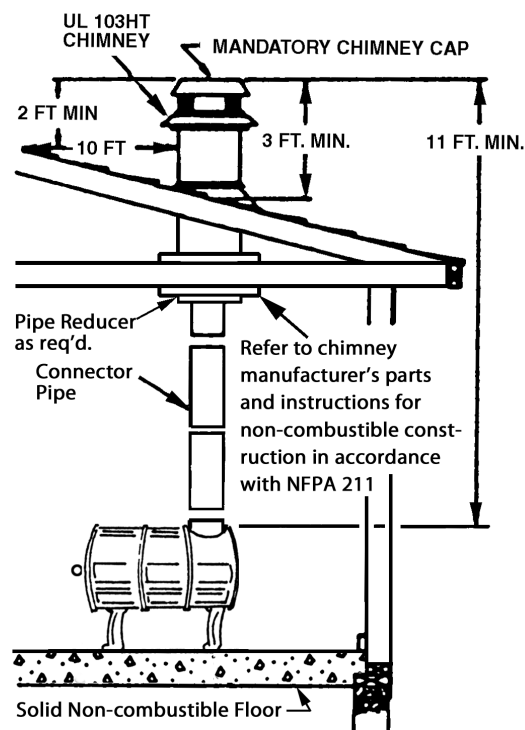

Fig. 8 - Chimney Construction Through Attic Space
DRAFT: Your stove itself does not create draft. Draft is provided by the chimney. To achieve proper draft your chimney must meet the three minimum height requirements detailed in figures 8–11. A minimum of 0.05 w.c. (measured in water column) is required for proper drafting to prevent back puffing, smoke spillage, and to maximize performance. Draft must not exceed 0.06 w.c. or unsafe operating conditions may occur. A barometric draft regulator must be installed if draft exceeds 0.06 w.c. (Gauges to measure draft are readily available at stove stores and are economical to rent or purchase.)
2. Install a fire clay (5/8" minimum thickness) thimble. Make sure the thimble is flush with the inner surface of the chimney liner and does not protrude into the flue (see figure 8 on page 6).